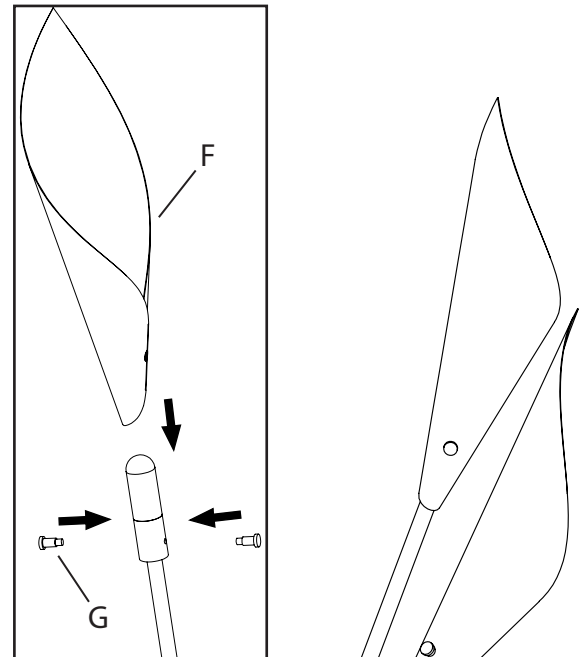

Fig. 1
1. Shut off power to the outlet box (A).
- a. Connect the LED driver's (B) live wire (black) to the outlet box live wire.
- c. Connect the fixture's (C) ground wire (green or uncoated) to the outlet box ground wire. If no ground is present in outlet box, connect fixture's ground wire to the mounting plate (D) using the green screw (included).
3. Attach the mounting plate (D) to the outlet box (A), secure with outlet box screws (E).
4. Roll petal diffuser (F) as shown in Fig. 1, align holes on petal diffuser with the holes on fixture (C) and tighten thumb screws (G) on both sides to secure.